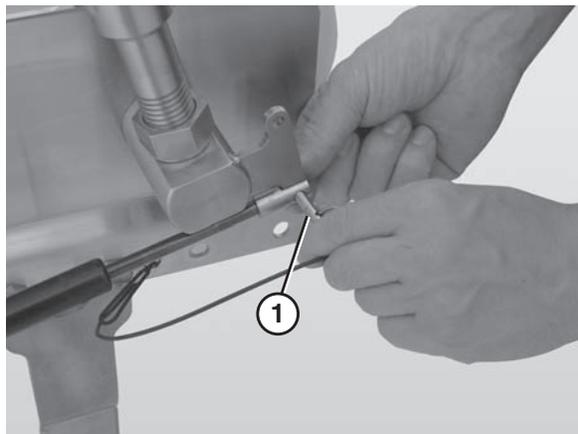

Figure 92
- Remove the pull pin (Figure 92, item 1).